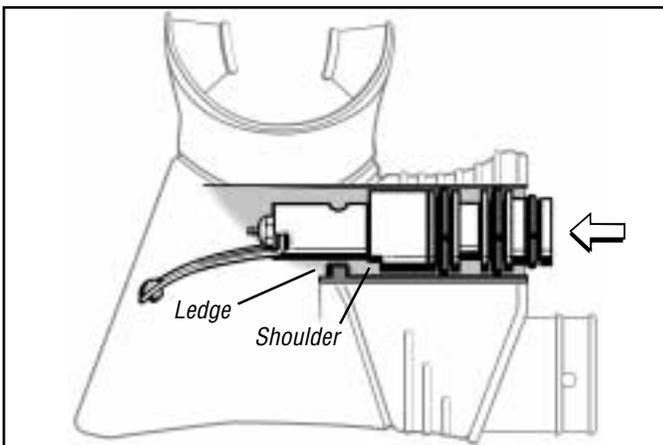

Figure 25
- **Orifice Crown (4)** Inspect the cone area for nicks, scratches, pitting, or any defects in the plating. Pay particular attention to the sealing edge of the cone.
- **Poppet (9)** Inspect for corrosion, pitting, scratches, defective plating or excessive wear, particularly inside and around the cavity which holds the LP seat.
- **Demand lever (42)** Compare with new to inspect for bending, distortion, or deformities of the white friction button.
- **Demand diaphragm (45)** Inspect for cracking, tears, or pinholes. To detect pinholes, hold diaphragm up to a light source as you gently stretch the diaphragm. Inspect the round plastic diaphragm plate for any evidence of damage.
- **Mouthpiece (29)** Inspect for cracking or tears or any excessive wear especially around the bite tabs.
- **Body (26)** Inspect for any indication of cracks or thread damage. Closely examine the seating ledge which indexes with the poppet housing, to ensure it is free of any distortion or other damage. (Refer ahead to Fig. 25 on page 14.)
1.3.32 Closely examine the barrel inside the body which houses the valve module, to identify the flat ledge inside which indexes with the seating shoulder of the poppet housing. Align the valve module accordingly outside the barrel of the body, so that the ledge inside the body faces straight up and the shoulder of the poppet housing faces straight down (see Fig. 25). Gently insert the valve module (lever first) into the barrel, being careful to guide the end of the lever through without obstruction. Check first to ensure that the poppet housing is aligned precisely with the body, and carefully press the valve module straight inward. Do not use force. Closely inspect afterward to ensure the shoulder of the poppet housing fits squarely over the ledge inside the body, and is not cocked to either side. The end of the crown housing should also be flush with the outer surface of the body.